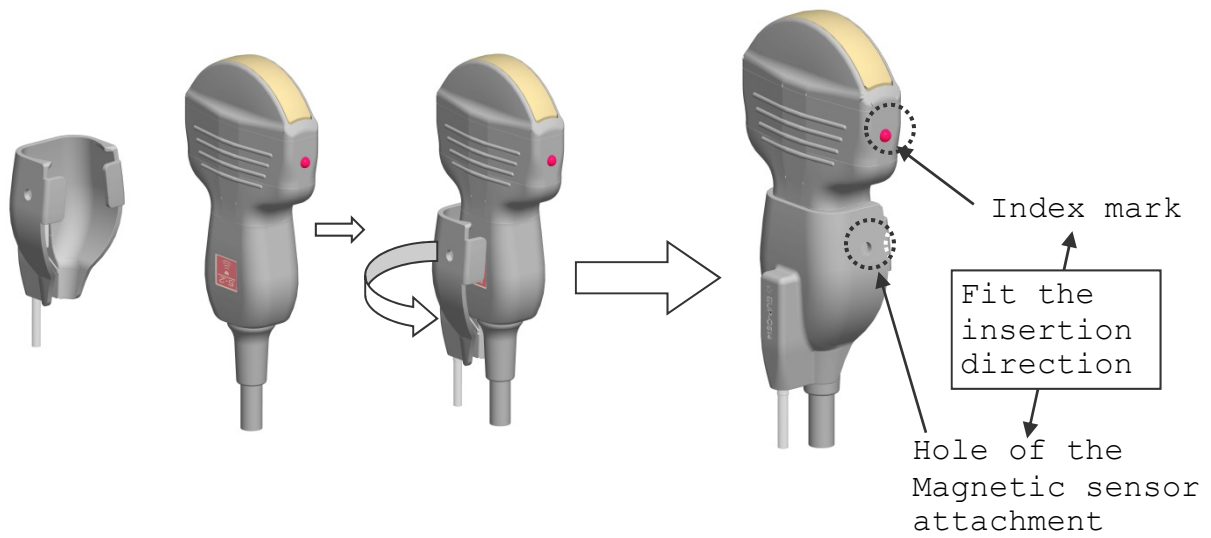

Fig. 10 How to attach the Magnetic sensor attachment
- b) Place the Magnetic sensor attachment on the probe as shown in Fig. 10. Fit the projected part of the Magnetic sensor attachment in the index mark of the probe.